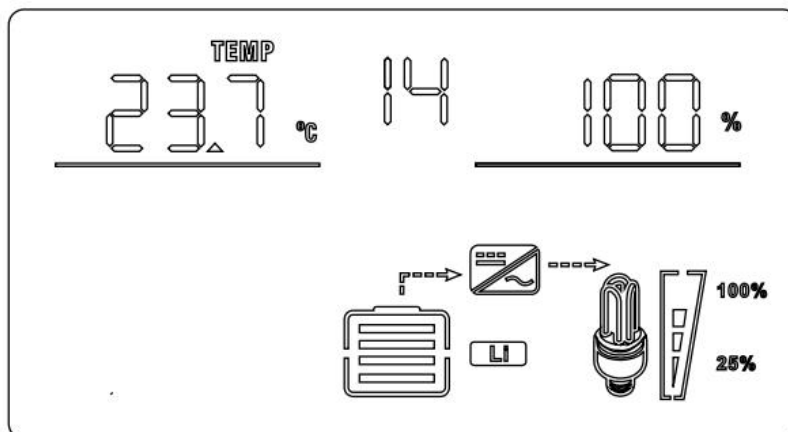

Figure 1-14 Display page 14
**Display Page 14 :** Lithium battery temperature, SOC; when the BMS communication successfully, the upper left corner displays BMS temperature information; the upper right corner displays BMS SOC information,as shown in Figure 1-14.If the BMS communication fails, this page is not available.